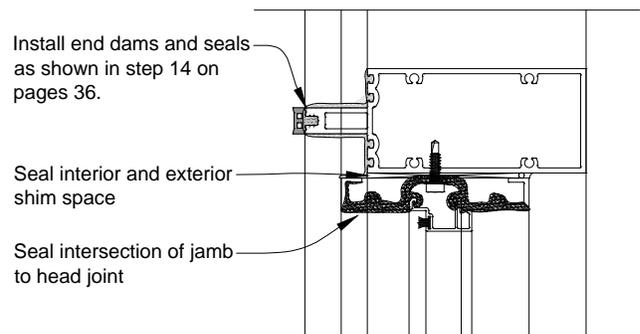

Fig. 71.3
- Seal the top of the jamb sub frame as shown in Fig. 71.3.